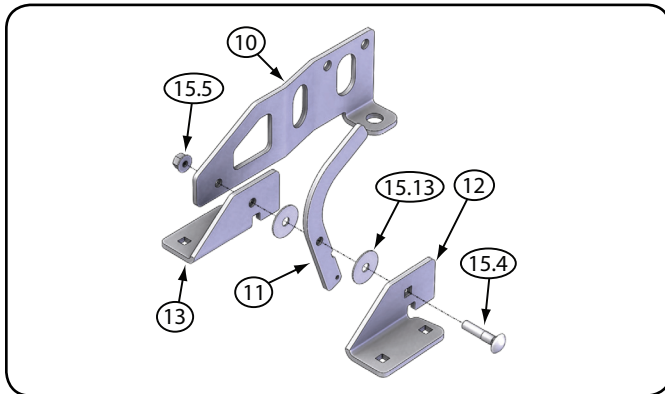

Figure 4 - Angle Lever Assembly (B)
1. Assemble left handle plate (13), 2× washer (15.13), pivot handle (11), right handle plate (12), and hook plate (10) using the  $\frac{5}{16} \times 1\frac{1}{2}$  in. (7.9 × 38.1 mm) standard carriage bolt (15.4) and  $\frac{5}{16}$  in. (7.9 mm) flange nut (15.5) as shown in Figure 4. Tighten down nut so that angle lever moves freely. This will create the angle lever assembly (B).